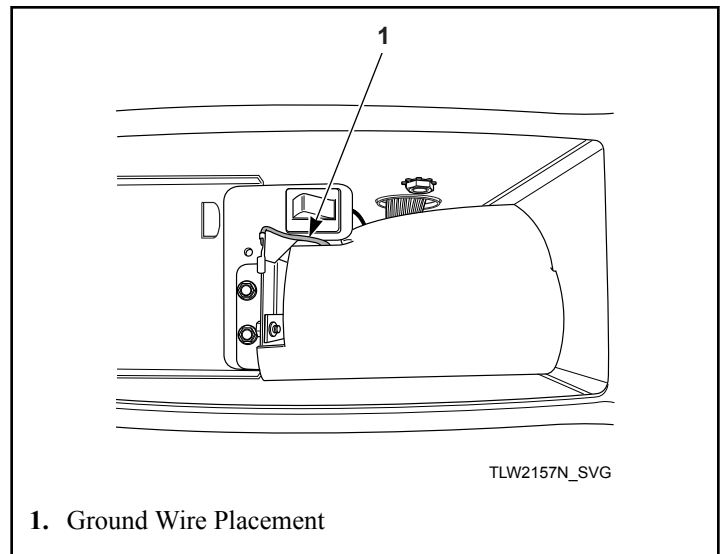

Figure 21
7. Before installing coin slide and extension, make sure ground wire is tucked under control shield to provide clearance for coin slide. Refer to *Figure 21*.